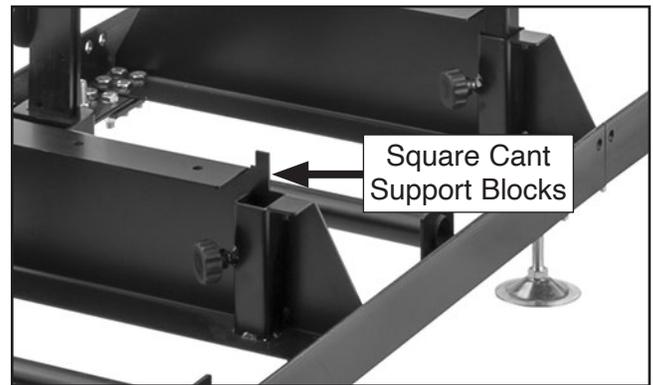

Figure 82. Location of square cant support blocks.
6. Remove log supports from bunks so cant corner can press flush against support blocks shown in **Figure 82** when secured with log clamps for remaining cuts.